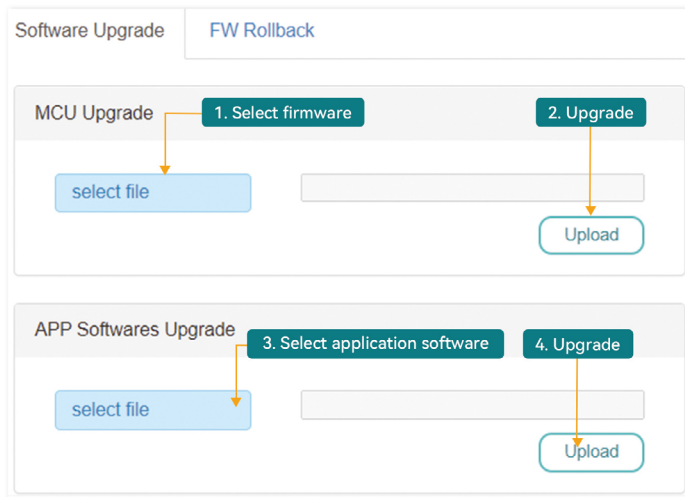

Figure 6.16 Software Upgrade
- 3) Click “Execute upgrade” as shown in Figure 6.16.